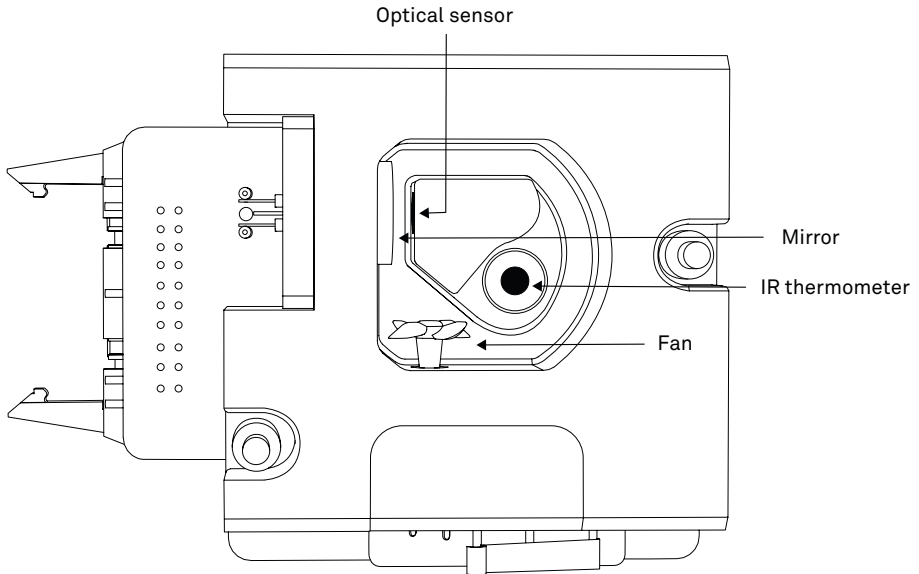

Figure 24 View of inside block
9. Turn the block over to expose the chamber cavity (Figure 24) and set it onto the work area carefully.